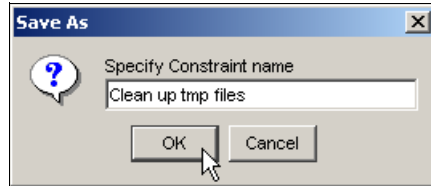

Figure 2-33 Specify Constraint name and save constraint
7. When you have defined the script name, click **OK**. Then click Ctrl+S to save the constraint and give it a unique name as in Figure 2-33 on page 38. Click **OK**.